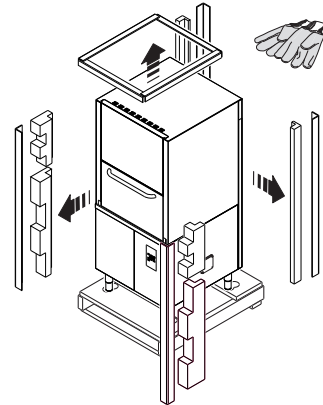

Figure 5 Unpacking
- Wear protective gloves and unpack the appliance (Figure 5).